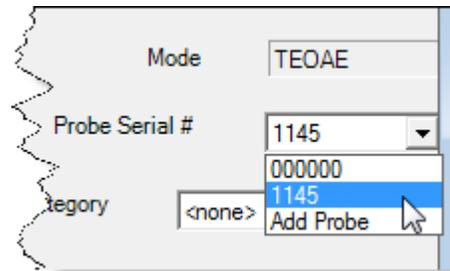

Figure 1.37: Probe selection menu in the main toolbar.
3. Select the current probe from the **Probe Serial #** drop down menu on the far right of the toolbar (See Figure 1.37).